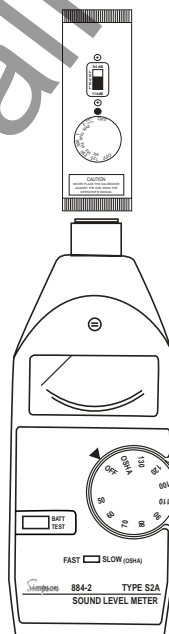

Figure 3-3
3. With one hand, hold the 896 and the Sound Level Meter against the body, while holding the Sound Level Meter in a horizontal plane. (See Figure 3-3.)